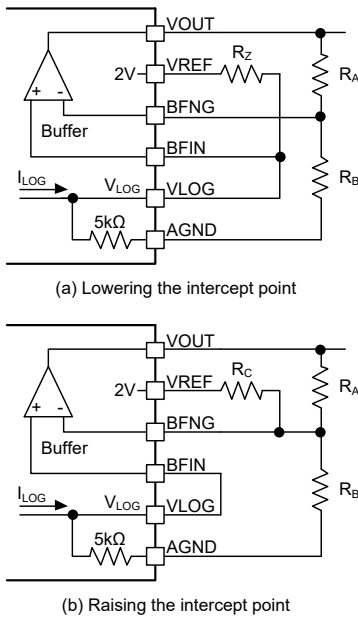

Figure 10. Adjusting the Intercept Point and Scaling
The on-chip buffer amplifier and voltage reference can be used for adjusting the output intercept point and the scaling needed to match the desired signal level of the downstream process. Figure 10 shows the circuits that can be used for lowering or raising the intercept point.
Usually it is more useful to raise the intercept point. Note that raising the intercept point reduces all output values. Figure 10 (b) shows how the intercept point is raised by placing the  $R_C$  between the BFNG and VREF pins. This arrangement raises the BFNG voltage (with zero input signal) and pushes the VOUT to lower values. Note that with the  $R_C$  connected to the BFNG pin, the gain (G) is also affected, but it can be compensated and re-adjusted by  $R_A$  and  $R_B$ . Use the following equation for calculating the resistors (Figure 10 (b)):